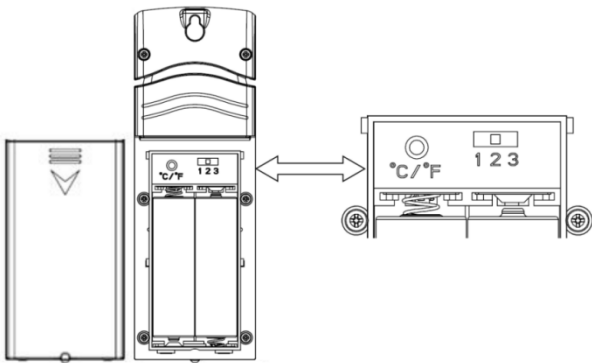

Figure 4
3. **BEFORE** inserting the batteries, locate the switches on the inside cover of the lid of the transmitter (see figure 4).